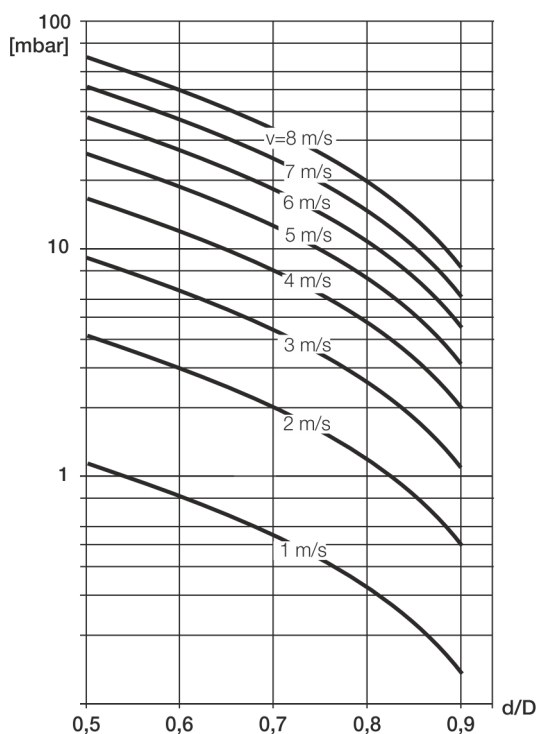

Figure 22: Flow rate nomogram for flange transition piece at $\alpha/2 = 8^\circ$
2. Determine the flow velocity based on the flow rate nomogram (Figure 22).
3. Read the pressure loss on the Y-axis in Figure 22.